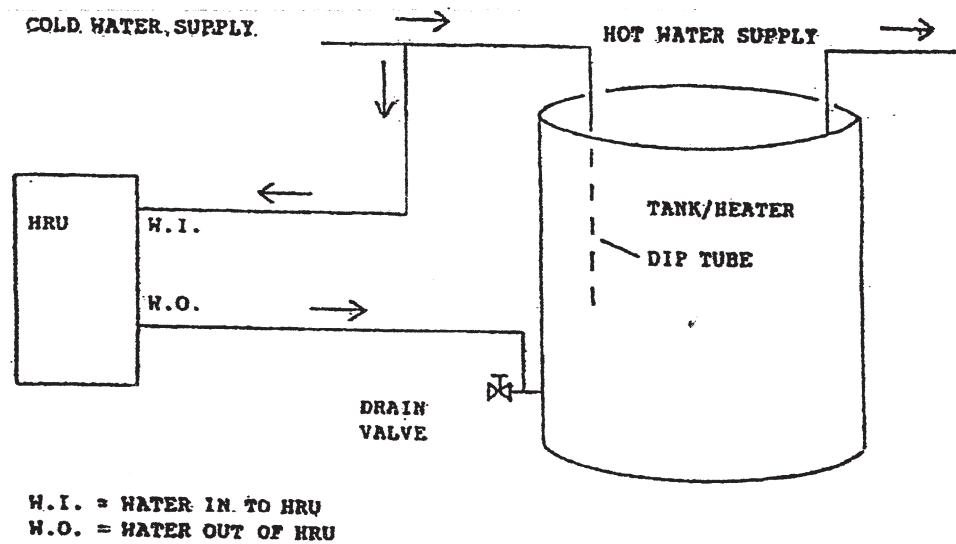

figure W-101
**WATER PIPING & TANK CONNECTION:** The water pipe should be of a type approved for the application and sized to carry the rated water flow. It may be necessary to upsize the water pipe to make up for the pressure losses incurred with multiple fittings or long pipe runs. The piping circuit should be designed to provide a closed loop between the HRU and the storage tank. ( Figure W-101) similar to a hot water circulating loop.